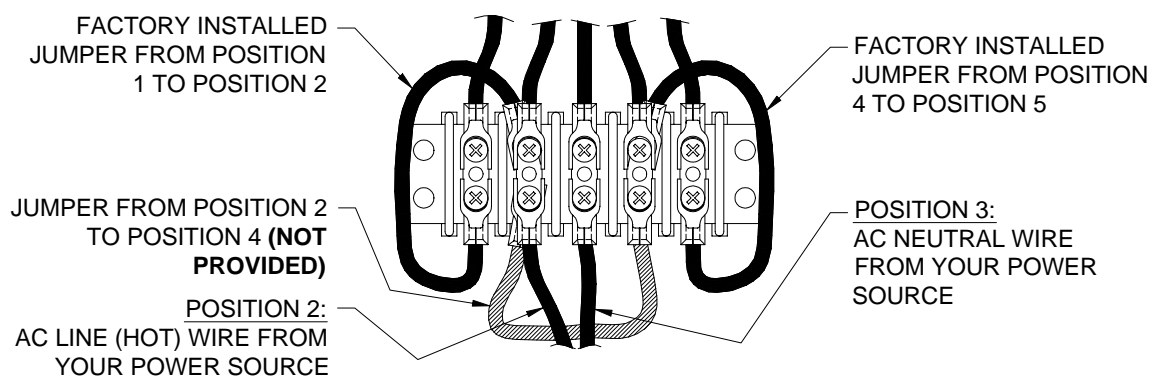

Figure 14 120 VAC Connections
- If you are going to connect the scoreboard to a 120 VAC supply, connect the AC line wire to position 2 and the AC neutral wire to position 3 of terminal strip T4 on the junction chassis. Add a jumper from position 2 to position 4. **This jumper is not provided.** Refer to figure 14.